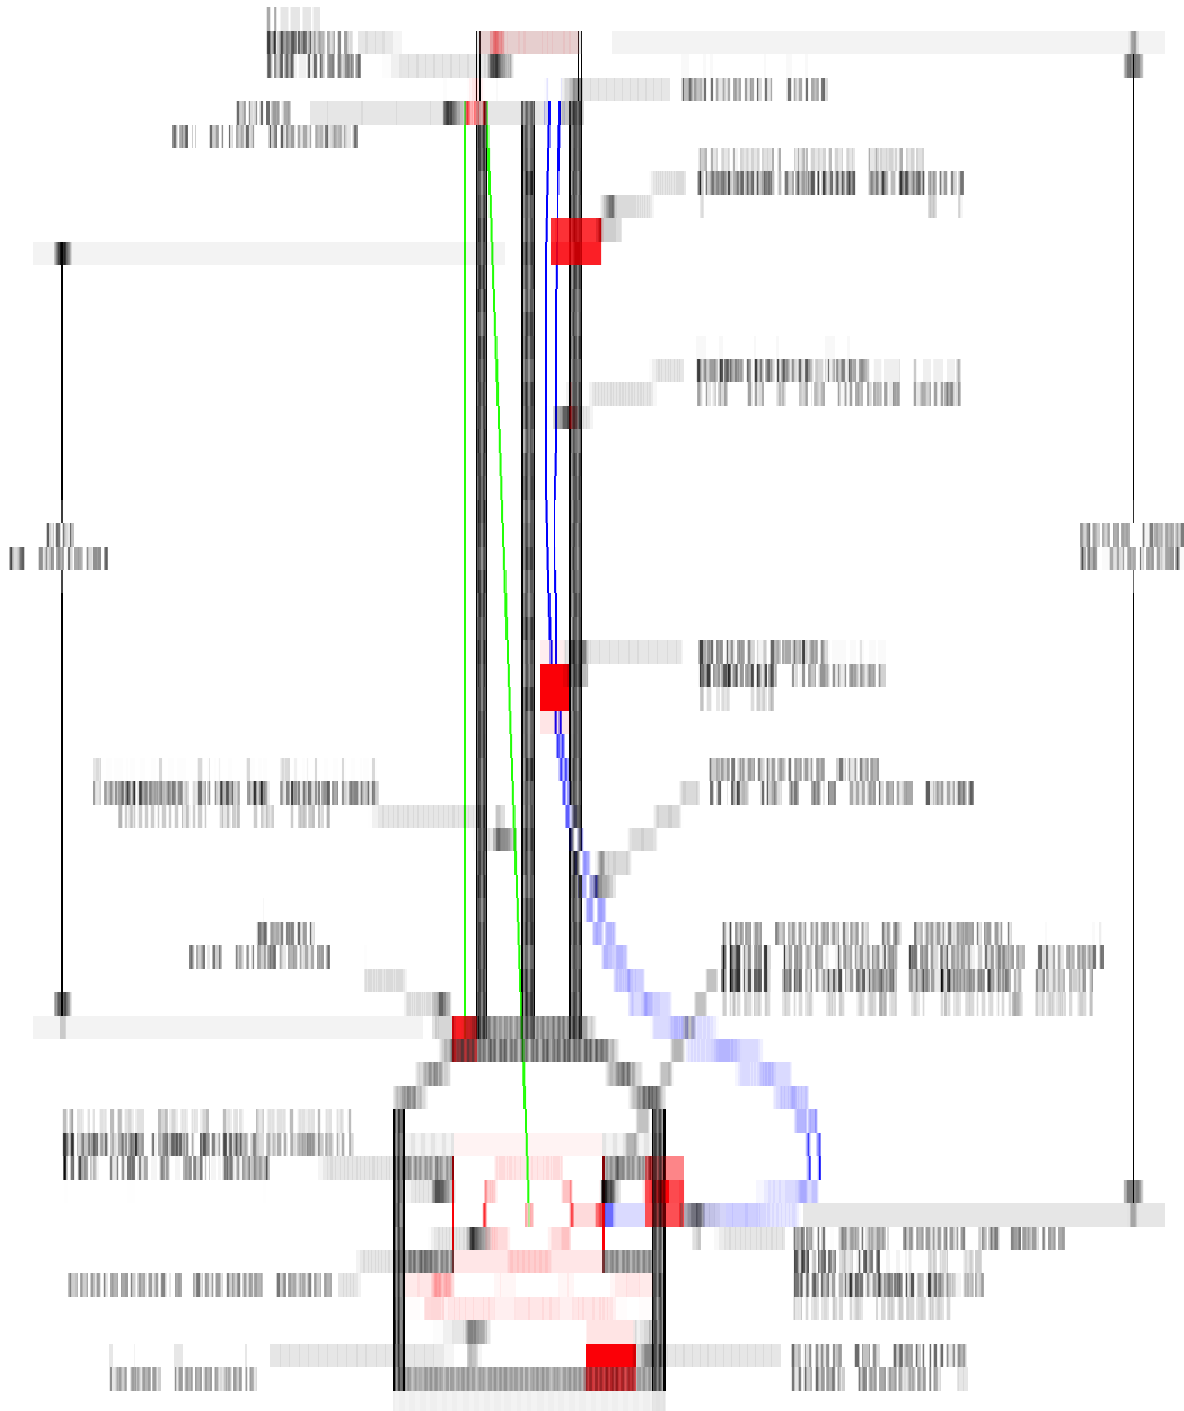

Figure 30. Schematic of test stand. Note: some of the dimensions are wrong in this figure; see item 6 above for the correct dimensions.
4. **Mounting your gadget to a board compatible with the test stand.** The gadget must be attached to a mounting board (*Figure 29*) (provided by AME) that is 20 inches wide and 15 inches in height. The mounting board will have two 1/2 inch holes drilled through it. The holes will be centered at a point 1-1/2 inches from the edges of the board nearest the two upper corners. These holes will be used to attach your board to support brackets on the test fixture (see *Figure 30*). **No part of your gadget can protrude beyond the 20 inch x 15 inch envelope of the board. You can only use one side of the board.**
5. **Plumbing.** The gadget will be connected to the test apparatus using a standard garden hose thread female connector (on the gadget) that connects to a male garden hose connector (on the test fixture) (see *Figure 30*). The male garden hose can be attached to your gadget anywhere on the board.
6. **The testing procedure.** Up to 30 liters of water will be allowed to flow, starting at a 4-meter elevation above the control valve centerline, through a conduit (a 1-inch ID (inside diameter) x 1.5-meter-long polyethylene tube) to a flow meter. From the flow meter, the water will run through another conduit (a 1-inch ID x 2.5-meter-long polyethylene tube) to the control valve, and then to your gadget. Your gadget will lift the 1.5 kg mass vertically 4 meters. A sump beneath the testing apparatus will collect water flowing out of the gadget; you don't need to do "water management." *Figure 30* is a sketch of the test stand.